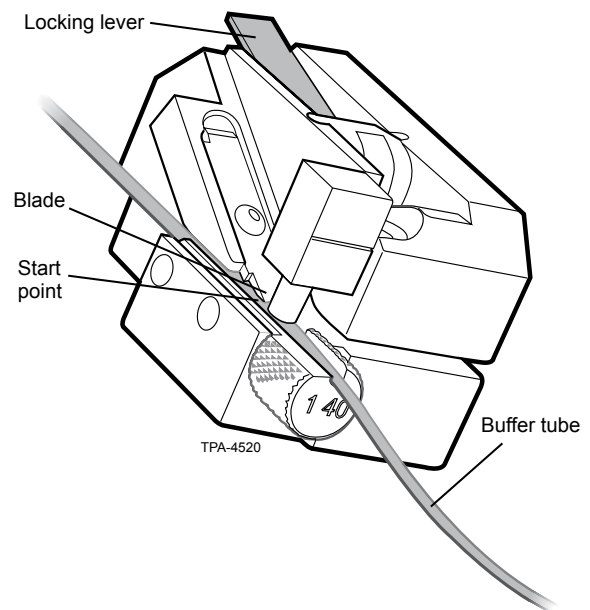

Figure 21
- a. Unlatch the locking lever and open the tool. Note where the leading edge of the blade will make contact with a buffer tube placed in the metal holder (Figure 21).